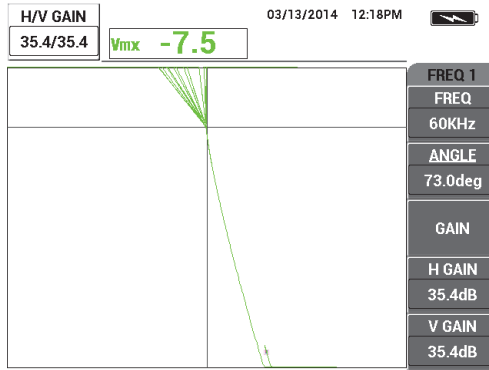

Figure 5-76 Adjusting the gain
10. Place the probe on the 45 % conductivity sample, and then press the GAIN key (**dB**) and decrease the gain until the live dot is within screen area (see Figure 5-76 on page 183).